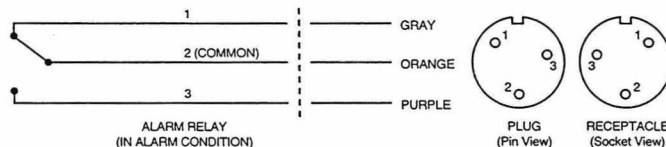

Figure 9. Remote Alarm Plug Connection
Relay connections are provided on an external plug for user installation of a remote alarm circuit (See Figure 9). Wiring, external power supply, and alarm devices must be supplied by the user. During an alarm condition, contacts 1 & 2 are closed and contacts 2 & 3 are open. During normal operation, contacts 1 & 2 are open while 2 & 3 are closed.
To remove the cabinet top, follow the steps illustrated in Figure 9 to remove the four (4) screws holding the trim (escutcheon) around the controller mounting opening at the front of the refrigerator. Remove two (2) screws from the controller